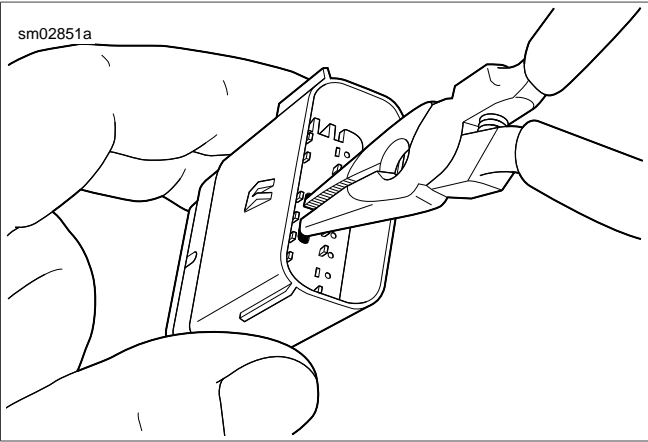

Figure A-48. Pull Up Secondary Lock
- b. **Pin Housing:** See Figure A-48. Use needle nose pliers to engage the D-holes in the center of the secondary lock.